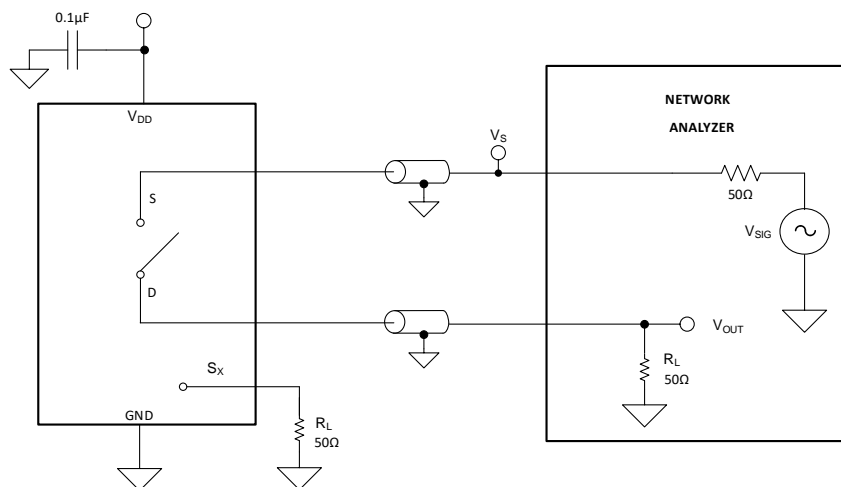

Figure 25. Off Isolation Measurement Setup
Off isolation is defined as the ratio of the signal at the drain pin (D) of the device when a signal is applied to the source pin ( $S_x$ ) of an off-channel. Figure 25 shows the setup used to measure, and the equation used to calculate off isolation.